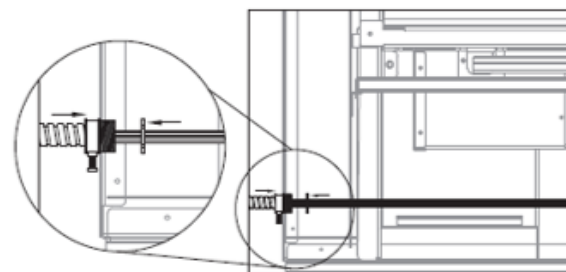

Figure 6.15 - Run Wiring Through Opening and Secure
4. Run the loose wiring through the larger section of the opening until you reach the start of the flexible conduit. Unscrew the nut from the conduit end and slide the conduit end into the smaller section of this opening. Screw the locking nut back on the threads of the conduit securing it to the fireplace. See Figure 6.15.